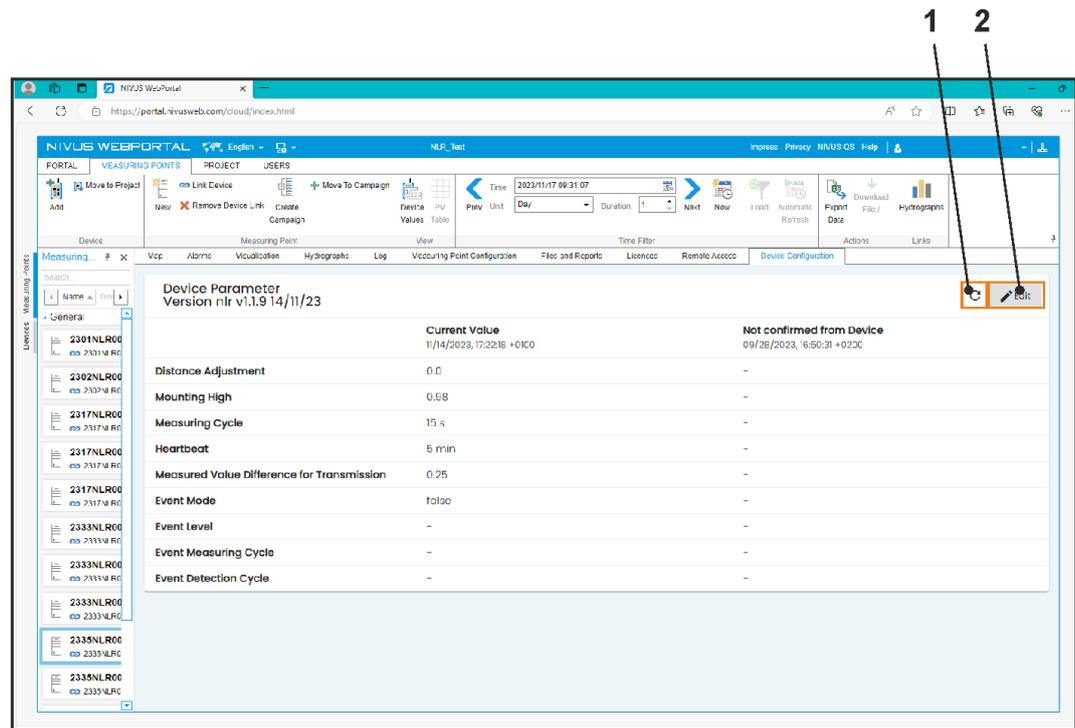

Fig. 31-1 Parameter display of the sensor in the NIVUS WebPortal
1. Click the editing symbol (Fig. 31-1 Pos. 2).
Clicking on the "Refresh" icon  (Fig. 31-1 Pos. 1) updates the display in the "Device Configuration" area/tab.